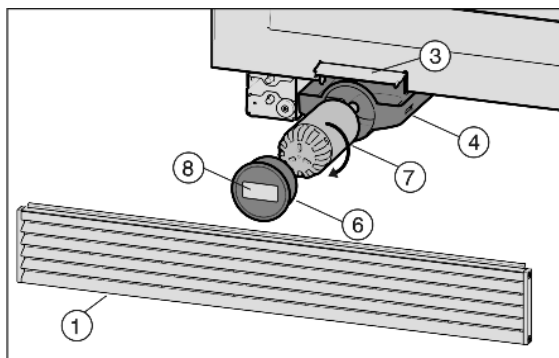

Fig. 61
- ▶ If necessary, remove ventilation grille Fig. 61 (1).
- ▶ Remove the filter cover Fig. 61 (6).
- ▶ Insert water filter Fig. 61 (7) and turn it approximately 100° clockwise as far as it will go.
- ▶ Insert the drawer Fig. 61 (4).
- ▶ Place the cover Fig. 61 (6) on the filter.
- ▶ Write the date of the next filter replacement on the label Fig. 61 (8) supplied and affix it to the filter cover Fig. 61 (6).
- ▶ Fit ventilation grille Fig. 61 (1).